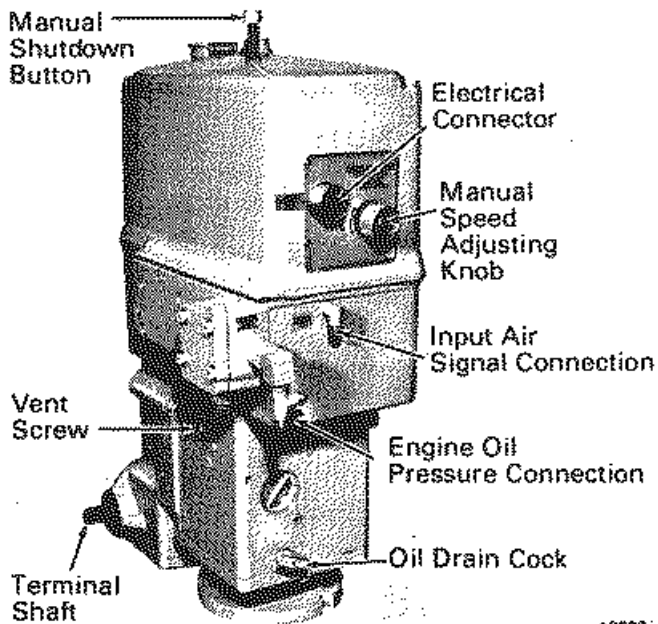

Fig. B-12 - PGA Governor 3/4 Rear View
8. Ensure governor manual speed adjusting knob, Fig. B-12, is set in the idle speed position.